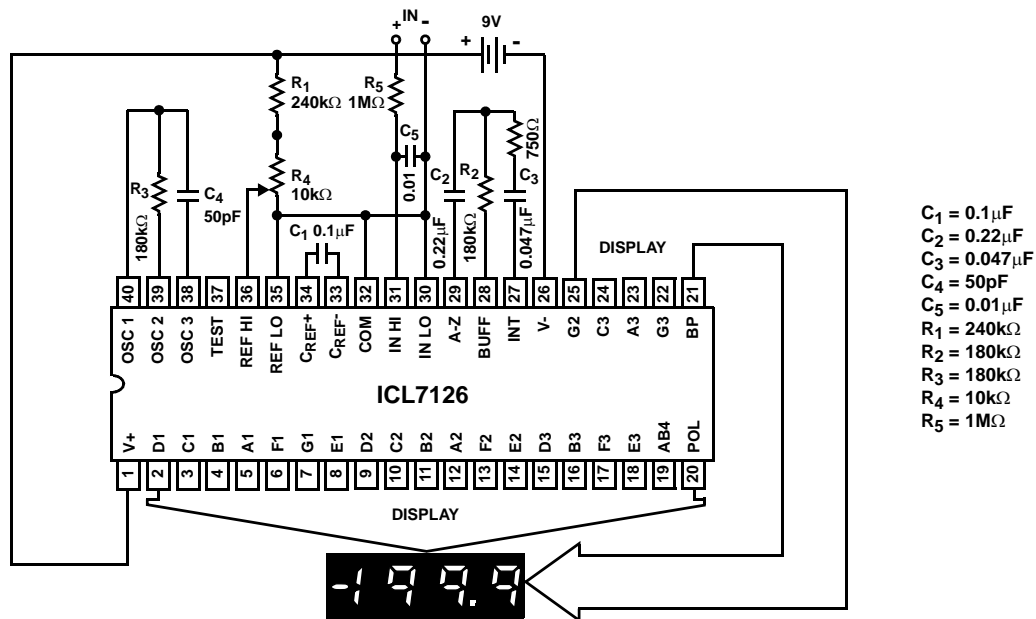

FIGURE 1. ICL7126 TEST CIRCUIT AND TYPICAL APPLICATION WITH LCD DISPLAY COMPONENTS SELECTED FOR 200mV FULL SCALE
3. Unless otherwise noted, specifications are tested using the circuit of Figure 1.